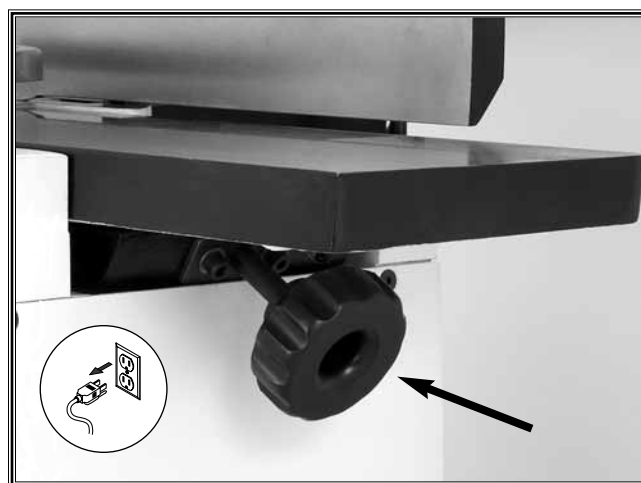

Figure 29. Table height knob.
- Turn the table height knob (**Figure 29**) clockwise to raise the infeed table, thereby reducing the depth of cut.